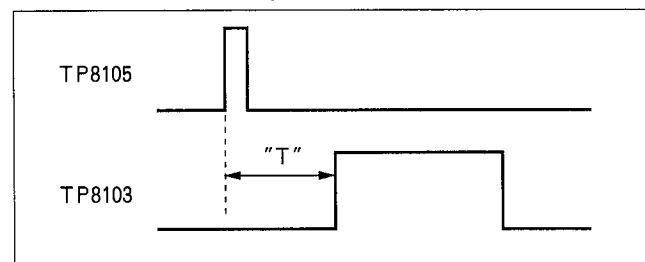

Figure E37
SPEC.	840nsec ± 20nsec (FIG. E37)
2. Adjust VC8101 so that the "T" becomes 840nsec. ± 20 nsec. as shown in Figure E37.